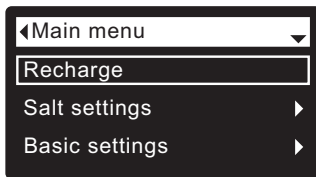
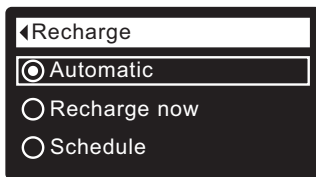
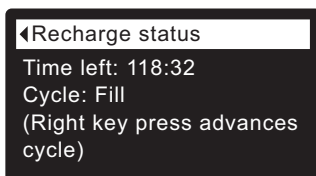

FIG. 95
FIG. 96
FIG. 97
2. Make sure **Recharge** is highlighted (See Figure 95).
3. Press the SELECT (O) button to display the Recharge menu (See Figure 96).
4. If the desired option already has a dot next to it (See Figure 96), go to Step 5. Otherwise, press the DOWN (▼) or UP (▲) buttons to scroll to the desired option, then press SELECT (O) to choose it.
- **Recharge now** begins a recharge immediately after the SELECT (O) button is pushed again in Step 5.
5. Press the SELECT (O) button. If **Recharge now** is selected, the display immediately goes to the Recharge status screen (See Figure 97). If **Automatic** or **Schedule** are selected, the display goes back to the Main menu (Figure 95).